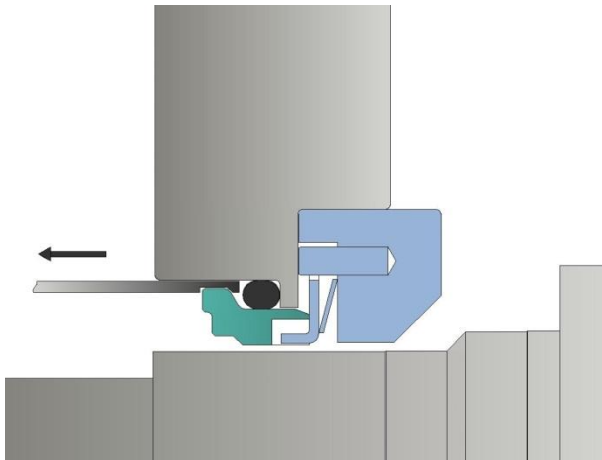

Figure 17- Seal seat removal
- Carefully remove the static seal seats (80) from their bores in the rotor case (51), This is done by using the special seal removal tool (182) supplied with the pump. Carefully insert the seal removal tool between the outside diameter of the static seal seat and the bore in the rotor case. (Figure 17)
- Push back the O-ring with the end of the tool and rotate the tool by 90 degrees, until the hooked end locks in position behind the seal seat. (Figure 17 & 18)
- The joint ring (83) may come out with the seal